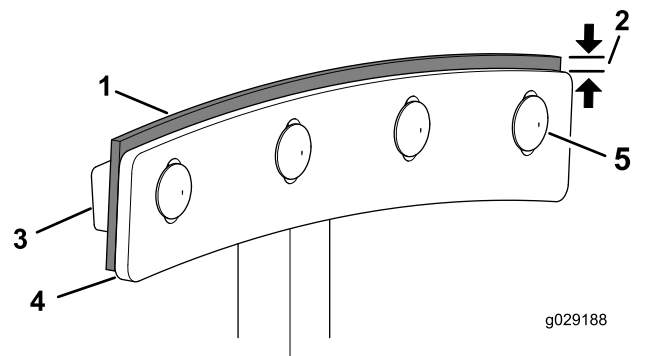

Figure 72
4. Loosen the carriage bolts and flanged locknuts that secure the paddle blade and wiper to the paddle (Figure 72).